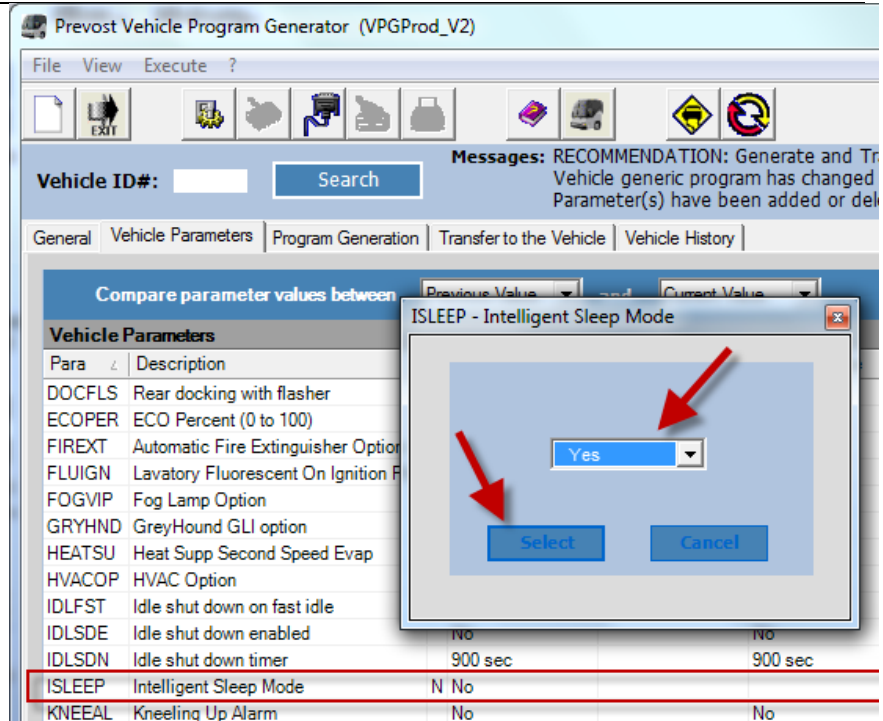

FIGURE 9: ISLEEP PARAMETER
10. On a working table, mark hole locations as shown on Figure 9. Use relay base as a template.